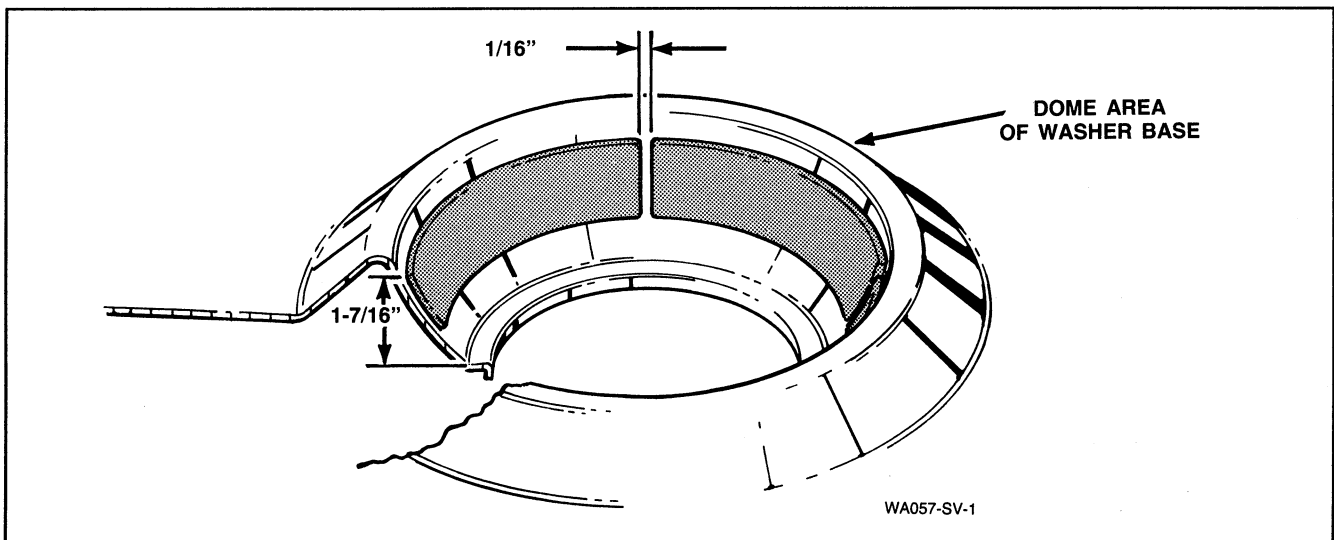

Figure 40
- Carefully align and apply the new snubber pads with fluffed side against the base dome and make sure pads are equally spaced, *Figure 40*.
IMPORTANT: The top edge of the snubber pads should be 1-7/16 inches from the lower part of the dome with a distance of 1/16 inch between the pads, *Figure 40*.